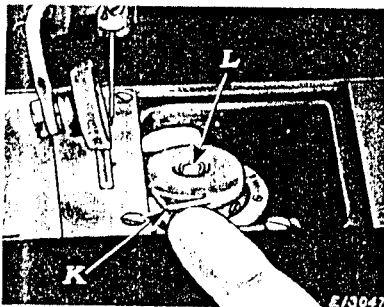

Fig. 7.
Draw out the slide plate in the bed of the machine. Turn the balance wheel to bring the needle to its highest position. Insert a finger under the projection (K, Fig. 7) on the side of the bobbin case cap, lift out the cap and remove the bobbin.
Take the cap in the right hand, holding the bobbin in the cap with the thumb, and place it on the center stud of the bobbin case base, having the thread at the left of the projection (K, Fig. 7). Then push down the latch (L) and replace the slide plate.